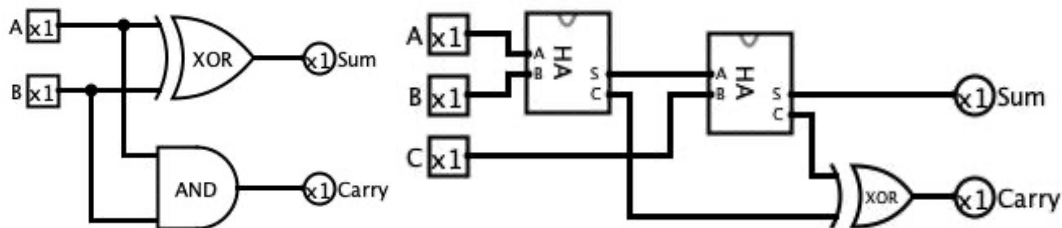
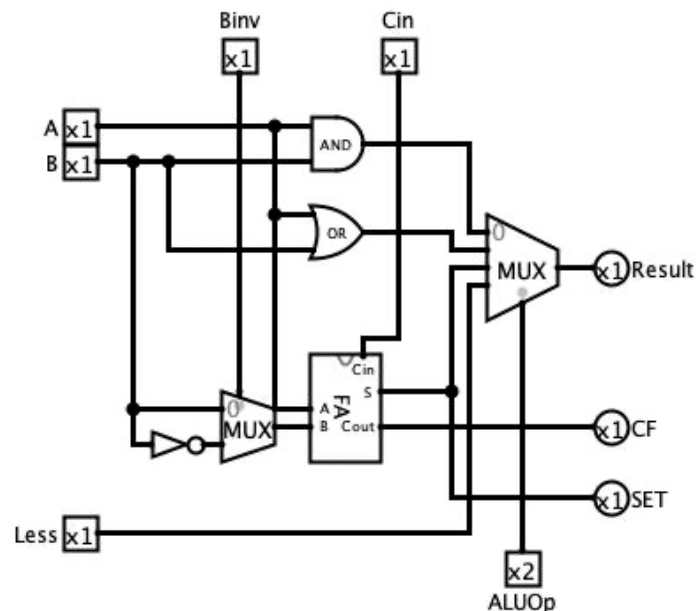
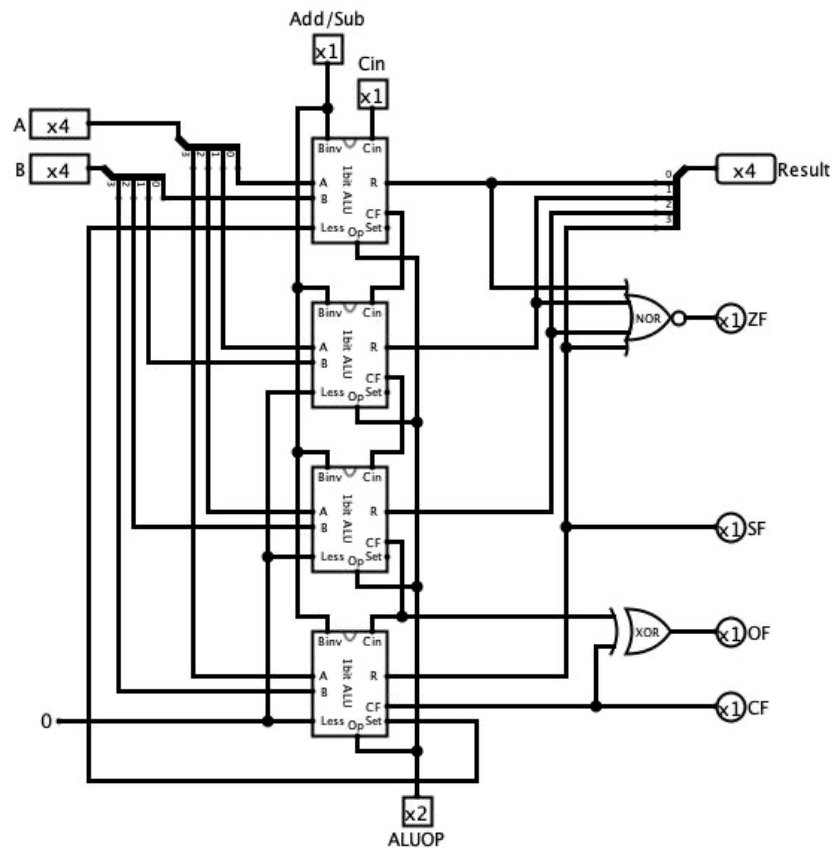

Figure 6-1. Digital Circuits of Half Adder and Full Adder
Figure 6-2. Digital Circuit of 1-bit ALU
Figure 6-3. Digital Circuit of 4-bit ALU
An hierarchical approach is used to design the 4-bit ALU, starting from gates to construct Half Adder (HA), and then using two HAs to design Full Adder (FA), as shown in Figure 6-1, and then arithmetic unit (for addition and subtraction operations) and lastly logical component (of AND and OR gate operations) is integrated to design 1-bit ALU, as shown in Figure 6-2. By using 4 1-bit ALUs, 4-bit ALU is designed, as shown in Figure 6-3.